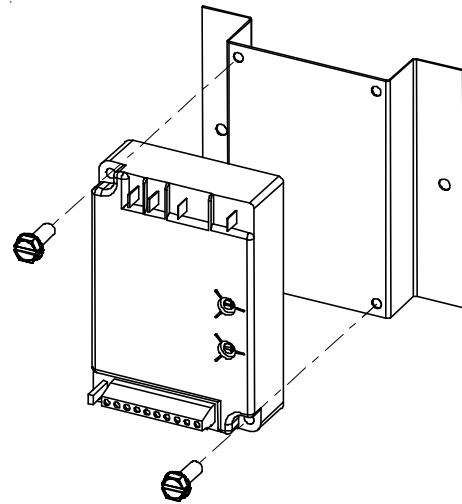

Figure 1A
3. Using the screws provided, secure the control to the mounting bracket provided (see Figure 1A). Secure the new assembly on the condenser evaporator partition panel in the blower section of the unit.